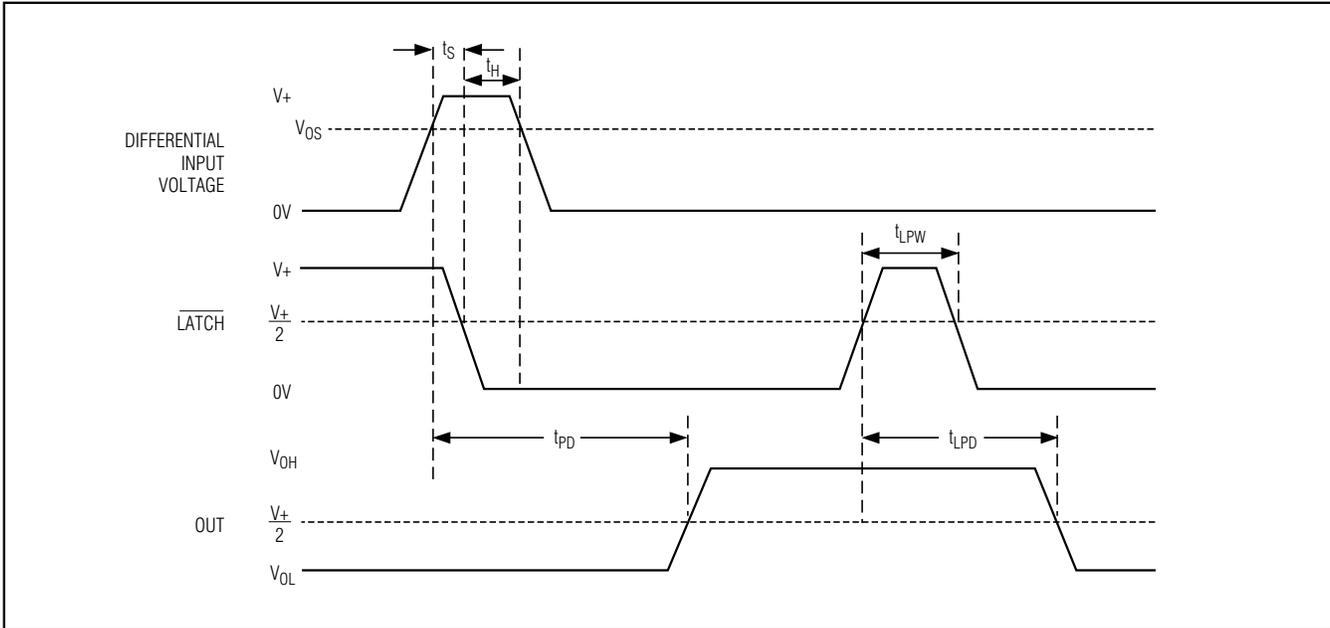

Figure 2. MAX941 Timing Diagram with Latch Operator
- Note 8:** Parameter is guaranteed by design and specified with VOD = 5mV and CLOAD = 15pF in parallel with 400μA of sink or source current. VOS is added to the overdrive voltage for low values of overdrive (see Figure 2).
- Note 12:** Applies to the MAX941 only. Comparator is active with  $\overline{\text{LATCH}}$  pin driven high and is latched with  $\overline{\text{LATCH}}$  pin driven low (see Figure 2).
The MAX941 includes an internal latch that allows storage of comparison results. The  $\overline{LATCH}$  pin has a high input impedance. If  $\overline{LATCH}$  is high, the latch is transparent (i.e., the comparator operates as though the latch is not present). The comparator's output state is stored when  $\overline{LATCH}$  is pulled low. All timing constraints must be met when using the latch function (Figure 2).